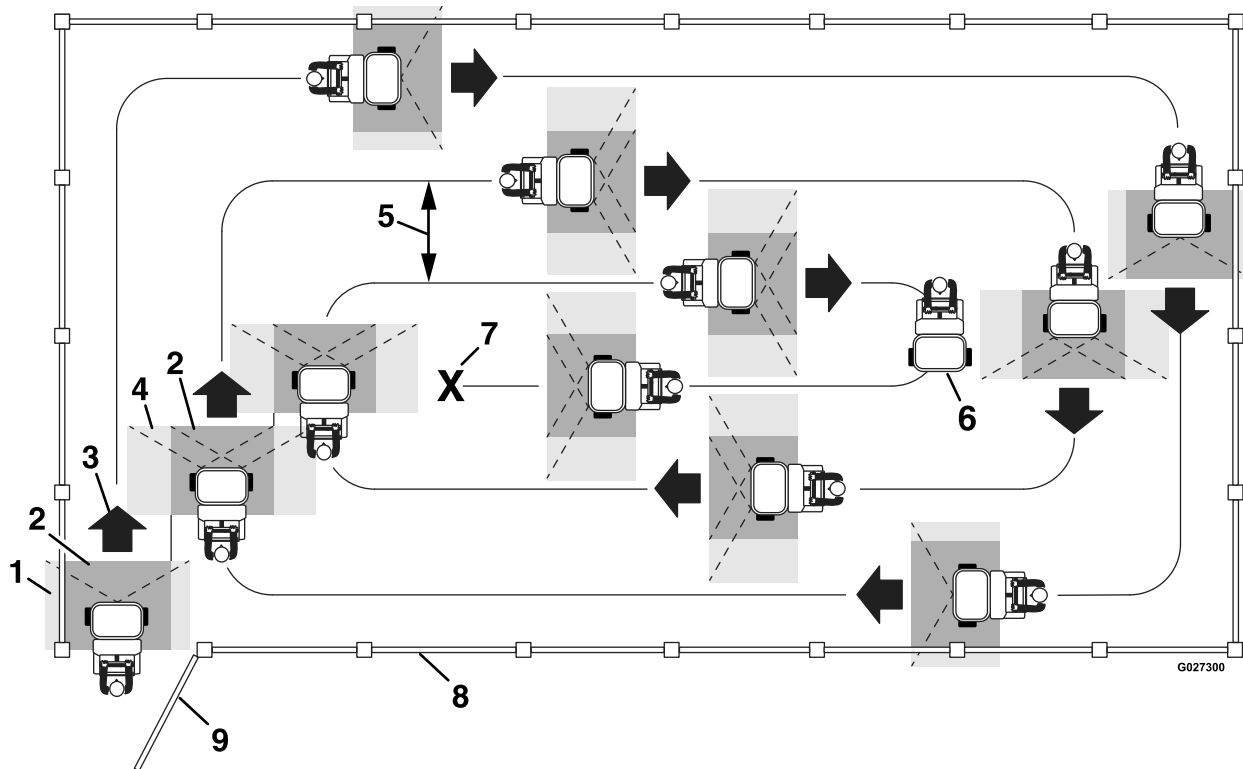

Figure 55
- Do not overlap the effective spray area that you have previously sprayed (see Figure 55).